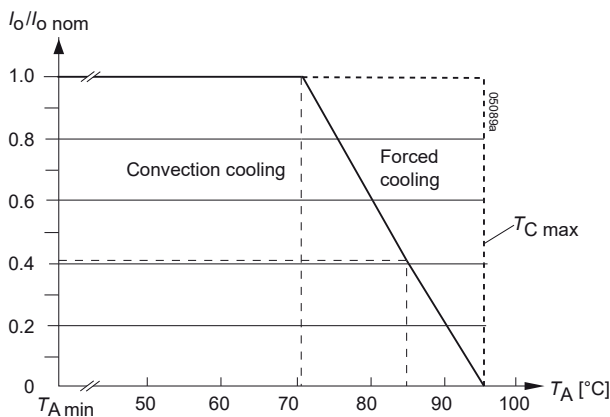

Fig. 8
**Notes:** Sufficient forced cooling or an additional heat sink allows  $T_A$  to be higher than 71 °C (e.g., 85 °C), as long as  $T_{C \max}$  is not exceeded. Details are specified in fig. 8.